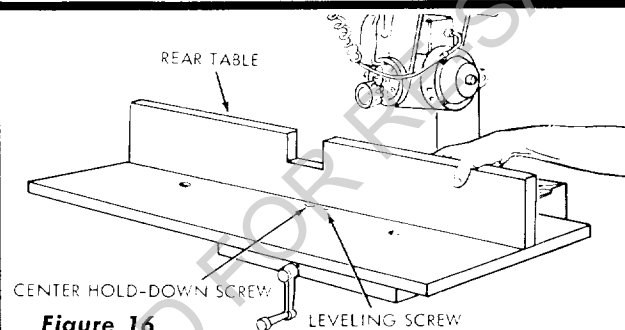

Figure 16
- Using one edge of the rear table board as a straight-edge, lay the board on the front table as shown in figure 16.